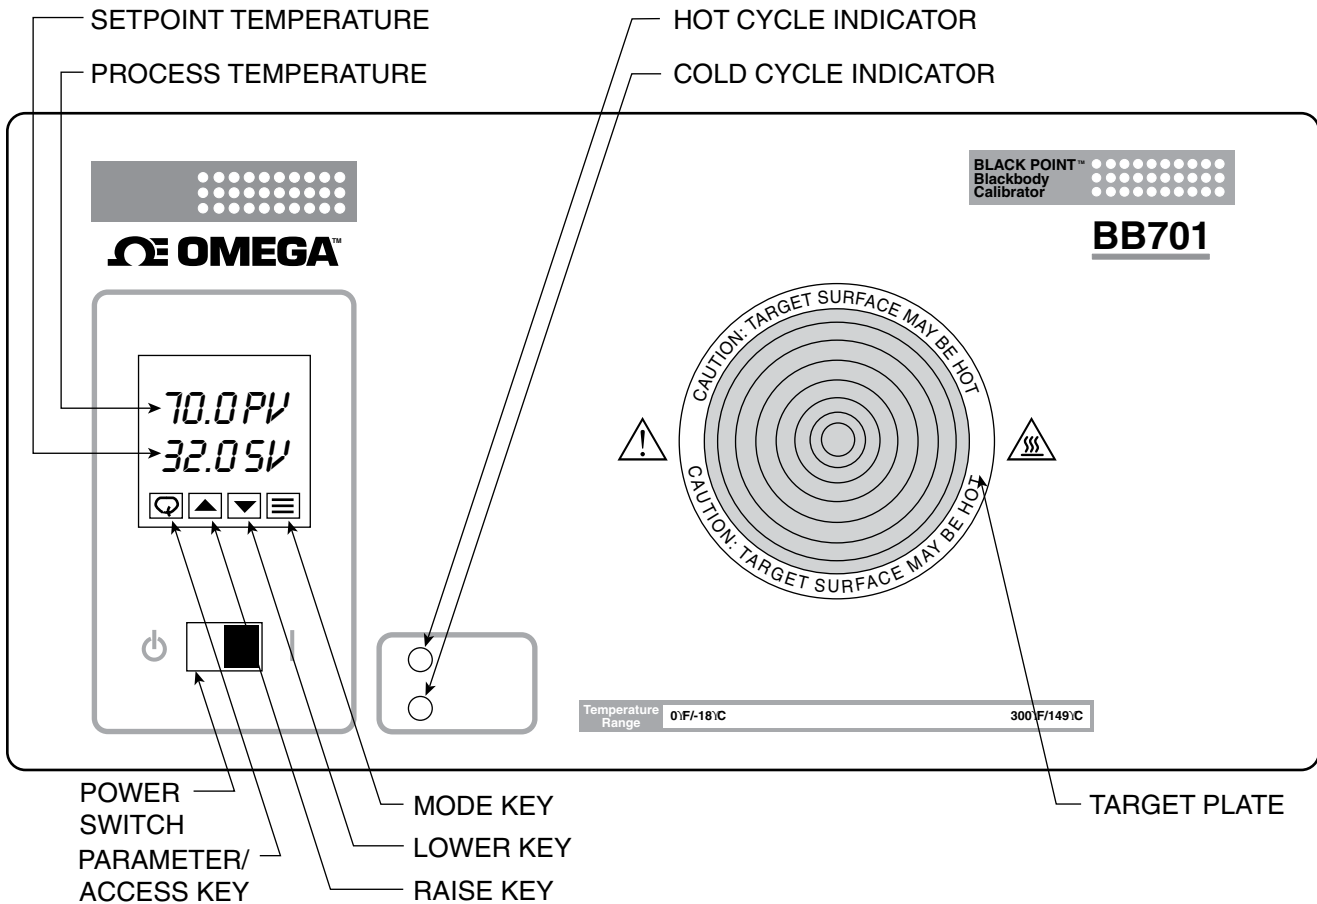

Figure 3. Front Panel
The layout of the front panel is shown in Figure 3. The BB701 incorporates a PID digital setpoint controller. The upper display indicates the blackbody target plate temperature known as (PV) Process Variable, while the lower display indicates the programmed setpoint known as (SV) Setpoint Variable. Making changes to the setpoint, units can be made via the ▲ and ▼ keys. Holding a key in, continuously, will cause the setpoint temperature to advance more quickly to a desired value. Three scanning speeds are provided: slow, medium and fast. The minimum and maximum setpoints are locked at 0 and 300°F, respectively. While these max. and min. settings are changeable (see “Changing the Internal Parameters,” Section 3.4), it is strongly advised not to adjust these parameters.